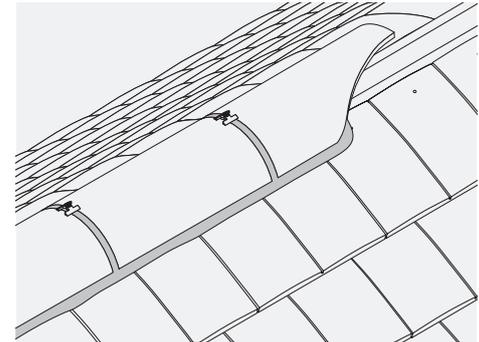

Fig. 19 – Typical bedded ridge
- Ensure that a minimum 75mm cover is provided by ridge tile over top course of tiles with any exposed mortar neatly pointed (Fig. 19).